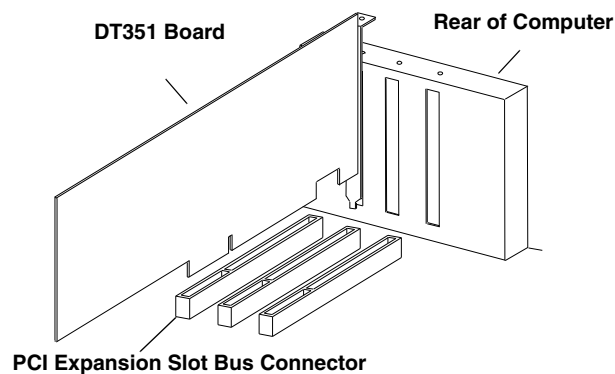

Figure 2: Inserting the DT351 Board in the Computer
4. Position the board so that the cable connectors are facing the rear of the computer, as shown in Figure 2.